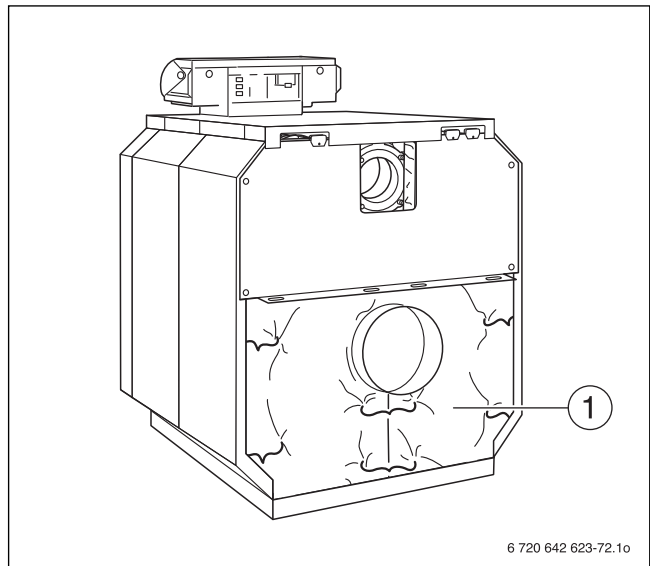

Fig. 76 Pull rear section thermal insulation together
- ▶ Fold the rear section thermal insulation down and pull together under the flue outlet using the spring hook (→ Fig. 76, [1]).